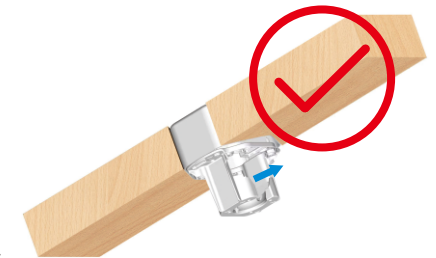

Fig. 6.4
1. When installing the mounting bracket, the bracket groove should be facing upward, as shown in Fig. 6.4. Do not install the bracket with the groove facing downward, as shown in Fig. 6.5.